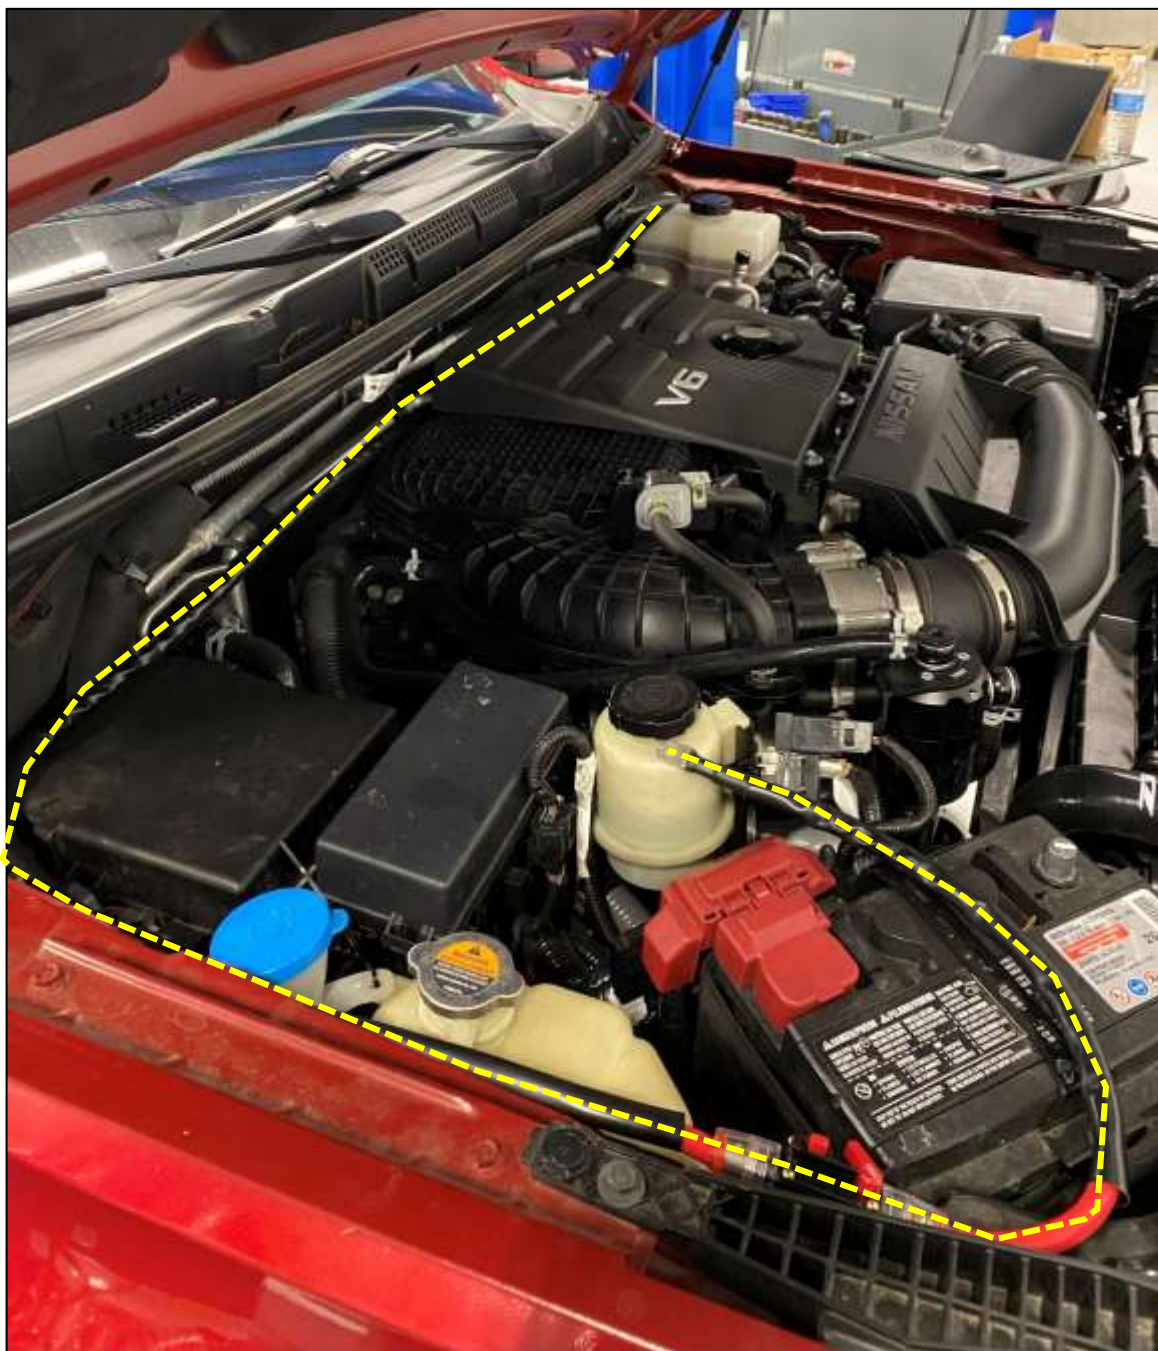

Figure 23
29. In the Engine Bay, route the Power Wire across the main wiring loom and to the Battery. Use Zip Ties to secure the Power Wire. **DO NOT** connect the Power Wire to Battery yet. *Figure 23.*